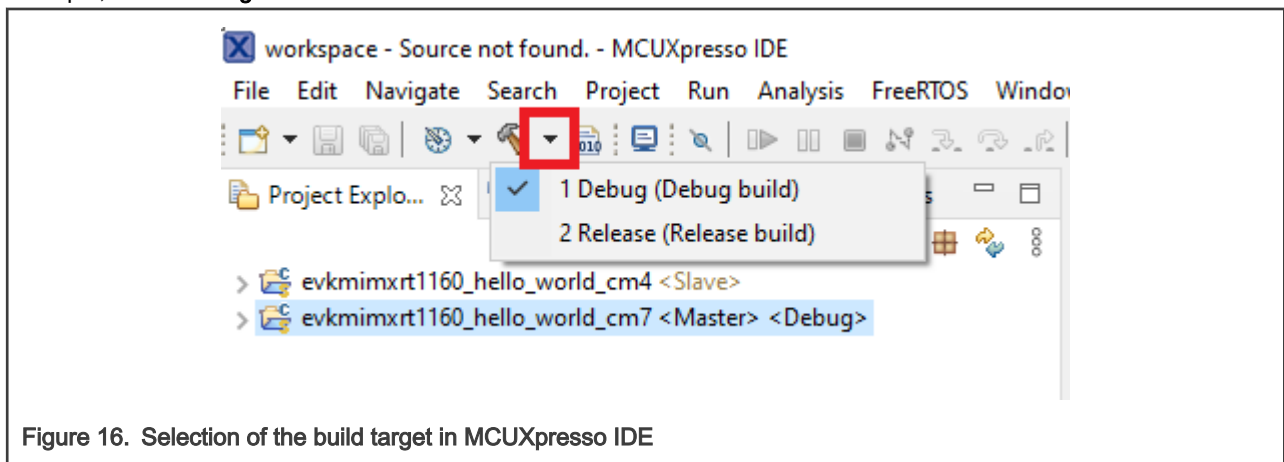

Figure 16. Selection of the build target in MCUXpresso IDE
- Now, two projects should be imported into the workspace. To start building the multicore application, highlight the `hello_world_cm7` project (multicore master project) in the Project Explorer. Then choose the appropriate build target, **Debug** or **Release**, by clicking the downward facing arrow next to the hammer icon, as shown in Figure 16. For this example, select **Debug**.